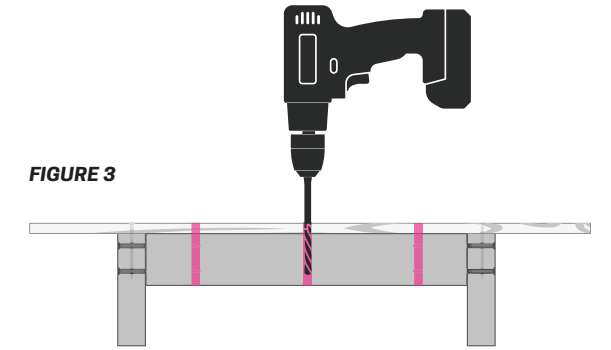

FIGURE 4
6. With the bolts hand tight, use your box or open wrench to hold the nut on the underside in place, and torque down firmly using the ratchet on the topside (**FIGURE 4**). Once the Deck Plate is firmly secure, replace the wooden planks you have removed in the beginning of the installation.